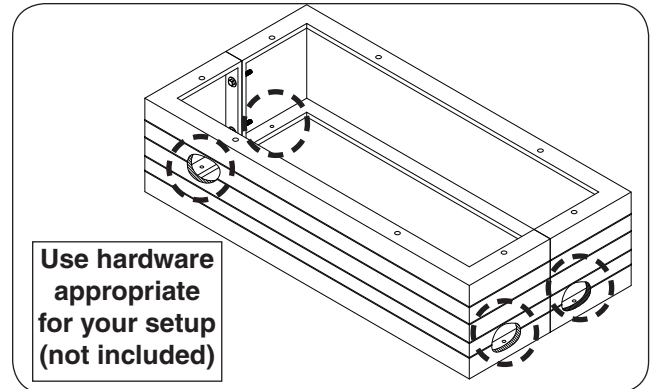

Fig. 14-2 Mount hearth
1. Using appropriate mounting hardware for the floor material/construction, secure the unit into the floor. The interior of the unit has four $\frac{1}{2}$ " holes that will allow for the unit to be fastened to the floor. See Fig. 14-2.